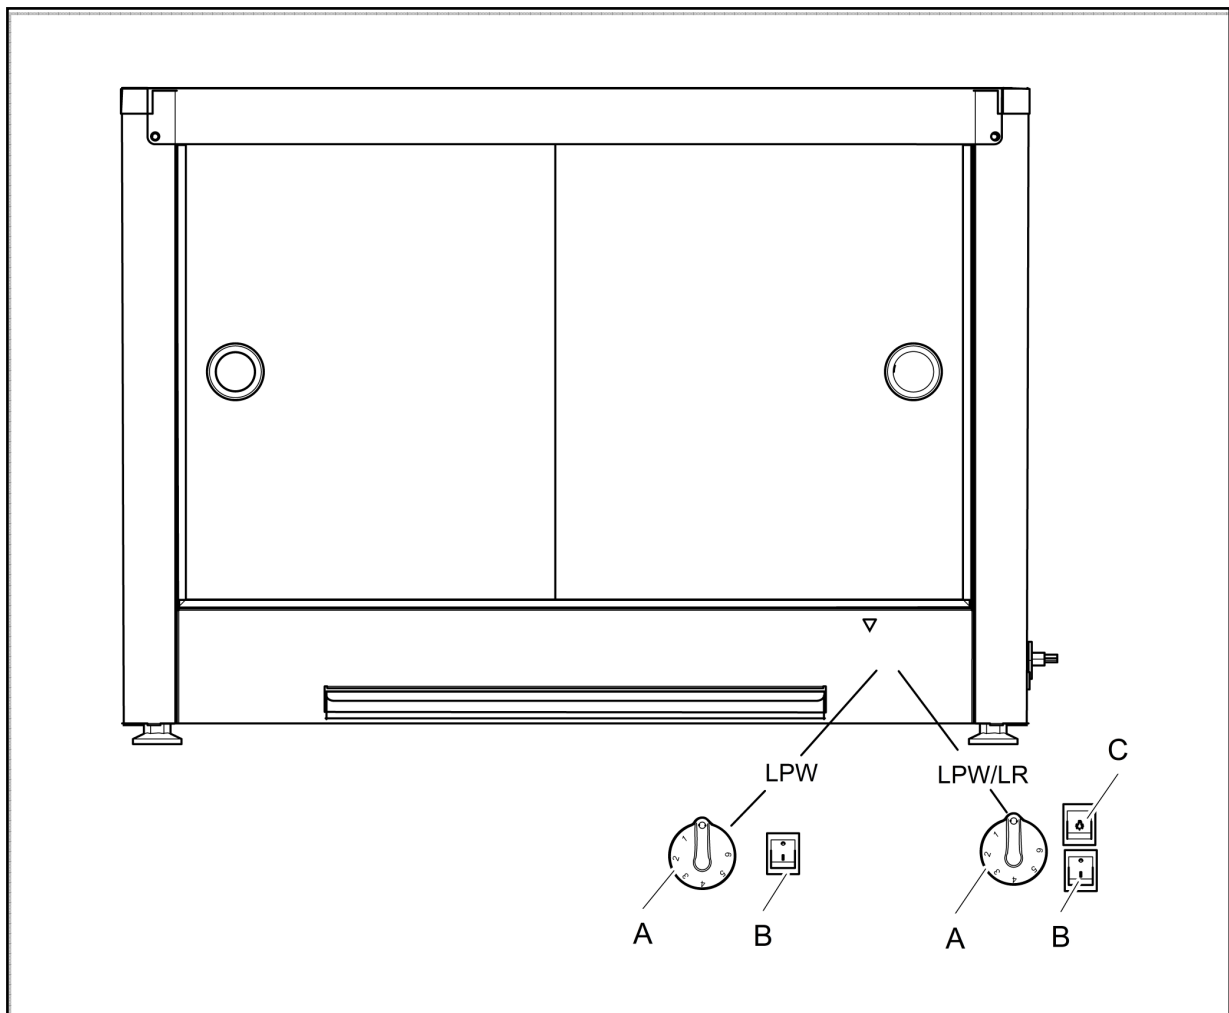

Fig 2
Connect the appliance to the electricity supply and switch on at the On/Off switch Fig 2 (B).
Operate the light using the switch Fig 2 (C).